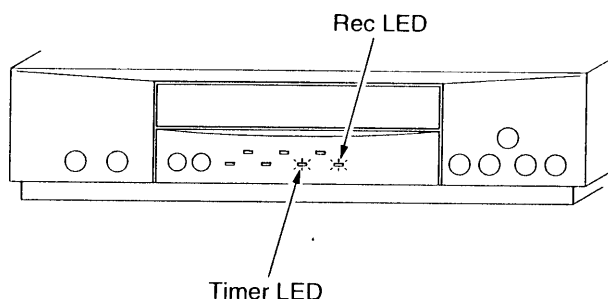

Fig. 21 - Simplified Fault Finding Data
2. The failure code will be displayed as shown in Fig. 21. Refer to Fig. 22 to determine the cause of failure.